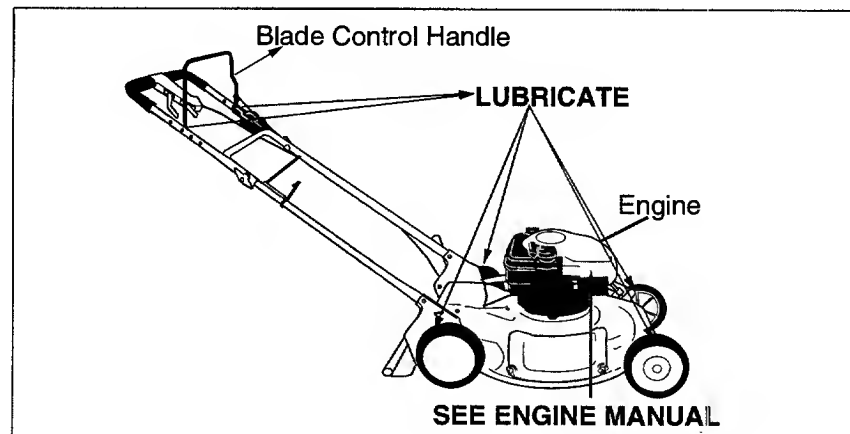

Figure 14
**Blade Control:** Lubricate the pivot points on the blade control handle and the brake cable at least once a season with light oil. See Figure 14. The blade control must operate freely in both directions.
**Wheels:** Lubricate the wheels at least once a season with light oil (or engine oil). Also, if the wheels are removed for any reason, lubricate the surface of the axle bolt and the inner surface of the wheel with light oil. See Figure 14.